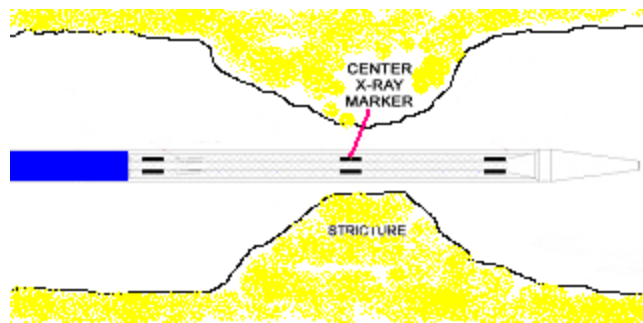

Figure 4. Stent Deployment Procedure
- When the center X-ray marker reaches the center of targeted stricture, the stent can be deployed at any time. (See figure 4,5)